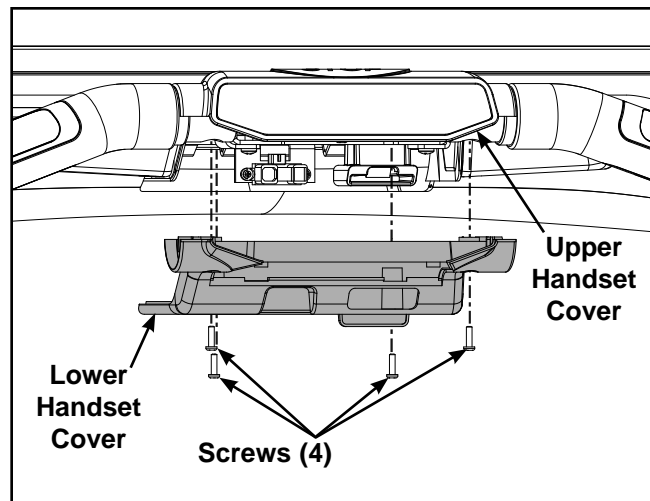

Figure 31
- Using a Phillips screwdriver, remove the four screws securing the lower handset cover to the upper handset cover. Set lower handset cover and screws aside. See Figure 31.
- C. Place the lower handset cover in position. See Figure 31.
- D. Using a Phillips screwdriver, install four screws that secure lower handset cover to the upper handset cover. See Figure 31.